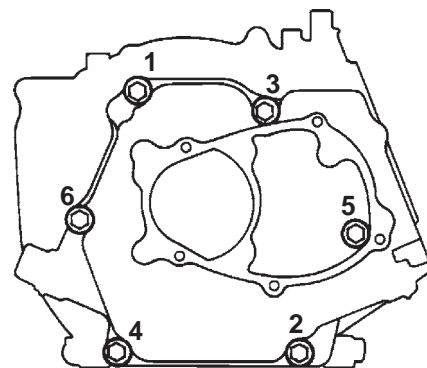

Figure 11-22. CS4, CS6. Closure Plate Torque Sequence.
4. On pump (threaded crankshaft) models only, install two or three of the fasteners securing the closure plate to the crankcase. Check crankshaft end play using a dial indicator. End play must be 0.0/0.2 mm (0.0/0.007 in.). If end play is not within the specified range, shims are available in the following thicknesses: 0.1 mm (0.0039 in.), 0.2 mm (0.007 in.), and 0.3 mm (0.011 in.) for CS4 and CS6; 0.1 mm (0.0039 in.), 0.2 mm (0.007 in.), 0.3 mm (0.011 in.), and 0.4 mm (0.015 in.) for CS8.5-12. When proper end play has been established, install all screws and torque in the sequence shown in Figure 11-22 or 11-23.
On all other models, install the hex flange screws securing the closure plate to the crankcase. See Figure 11-22 or 11-23.